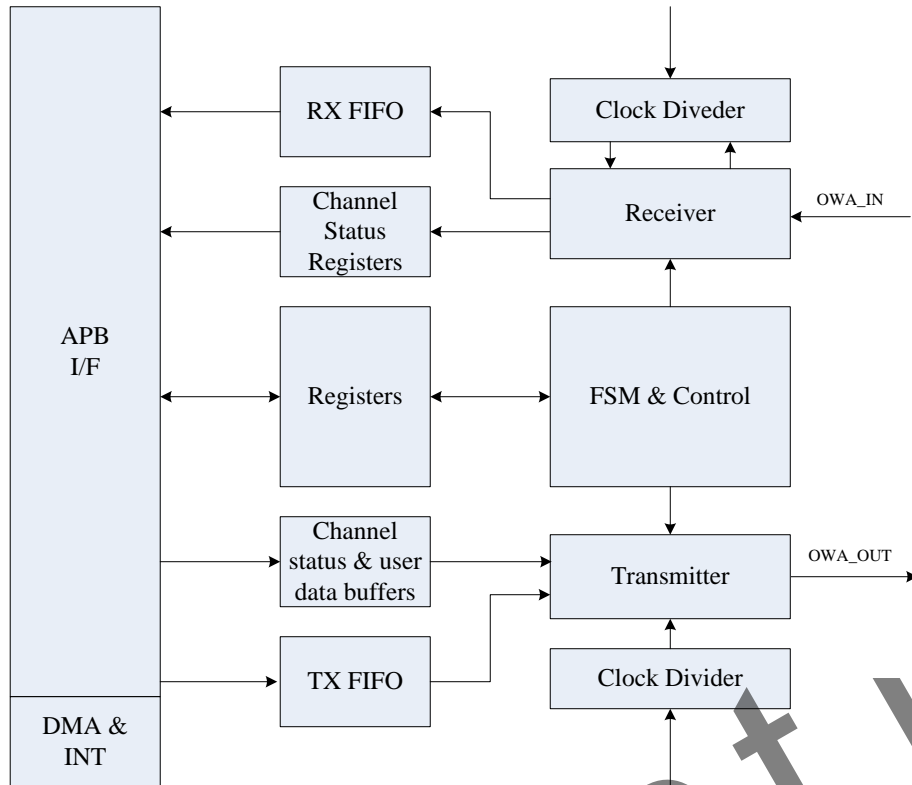

Figure 7-13: OWA Block Diagram
**Figure 7-13** shows the OWA block diagram.